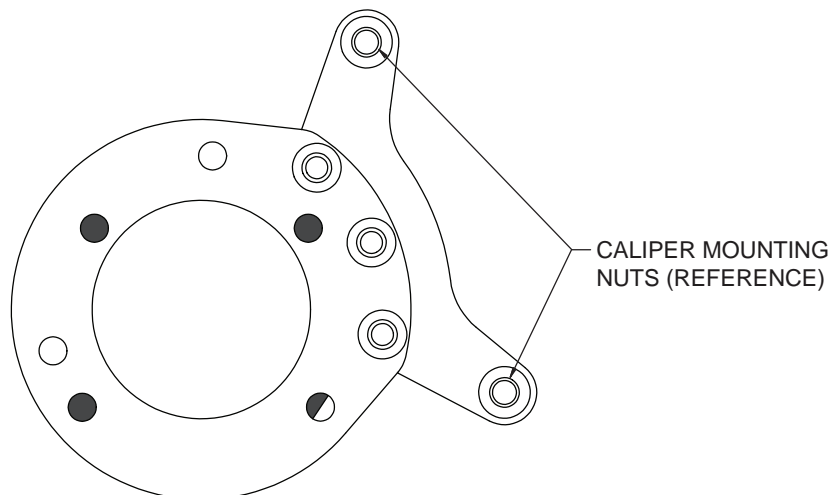
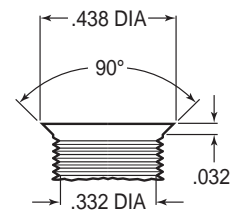

Figure 1. Wilwood Caliper Mounting Bracket
Figure 2. Drill and Tap Detail
This kit has been designed for use with both the disc brake or the drum brake configuration of vehicle. The only difference is in how the Wilwood caliper mounting bracket is installed. The same bracket is used for both configurations; the disc brake version utilizes three mounting holes while the drum brake application uses four mounting holes (see Figure 1). For your convenience we have supplied bolt kits for both applications (see parts list and Figure 4 as necessary). Use the bolt kit that is applicable to your vehicle and disregard the other one.
**NOTE:** This modification should be performed by a qualified machinist and completed before assembly of the Wilwood disc brake kit begins. Using the caliper mounting bracket as a template (refer to Figure 1 as necessary), locate and verify the three original holes on the spindle that need to be modified. Drill a .332" diameter hole through all three holes, then tap 3/8-24 UNF (fine thread). Countersink the holes to .438" diameter x 90°, as shown in Figure 2.
•**NOTE:** This kit uses the same mounting bracket (1) for both the drum and disc brake spindles. The drum version, Photo 1, uses four mounting bolts (designated "A"), while the disc version, Photo 2, uses three (designated "B"). Refer to Figures 1 and 4 for the basic installation position of the bracket and the "A" and "B" reference designations (not physically marked on the brackets).